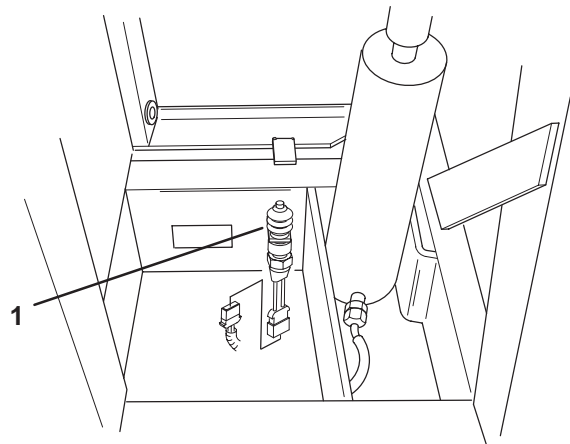

Figure 14
4. Route harness to hopper switch (Fig. 14) mounted to frame tube. Plug harness into switch.